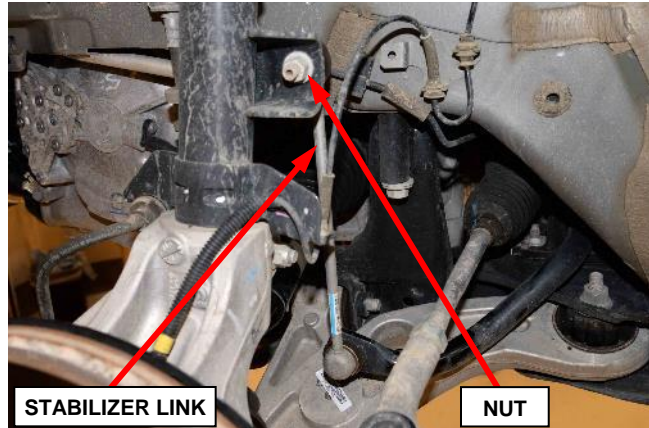

Figure 22 – Stabilizer Bar Link
27. Where the stabilizer bar link attaches to the suspension strut, remove the nut while holding the stabilizer bar link stud stationary, then position the link aside (Figure 22).